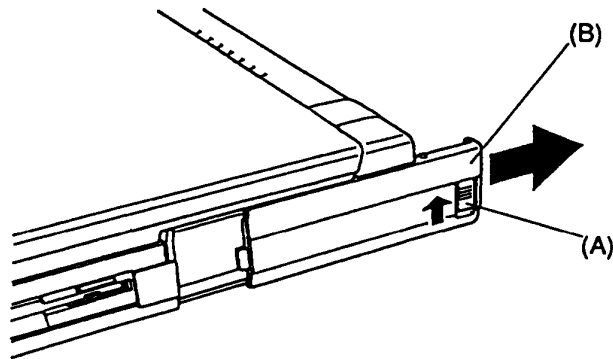

Figure 4-1 Removing the battery pack cover
2. Facing the right side of the computer, push the battery cover release lever (A) up, and then slide the battery pack cover (B) toward the back of the T4400SX. Remove the battery pack cover to expose the battery and its pull tab (Figure 4-1).
3. Position the battery pack cover onto the guides and slide it into place; its latch should lock into place (Figure 4-1).